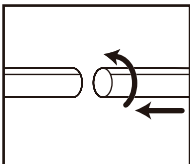

FIGURE 4
6. Insert machine hose end into inlet of tank. Twist slightly to tighten the connection. **FIGURE 4.**